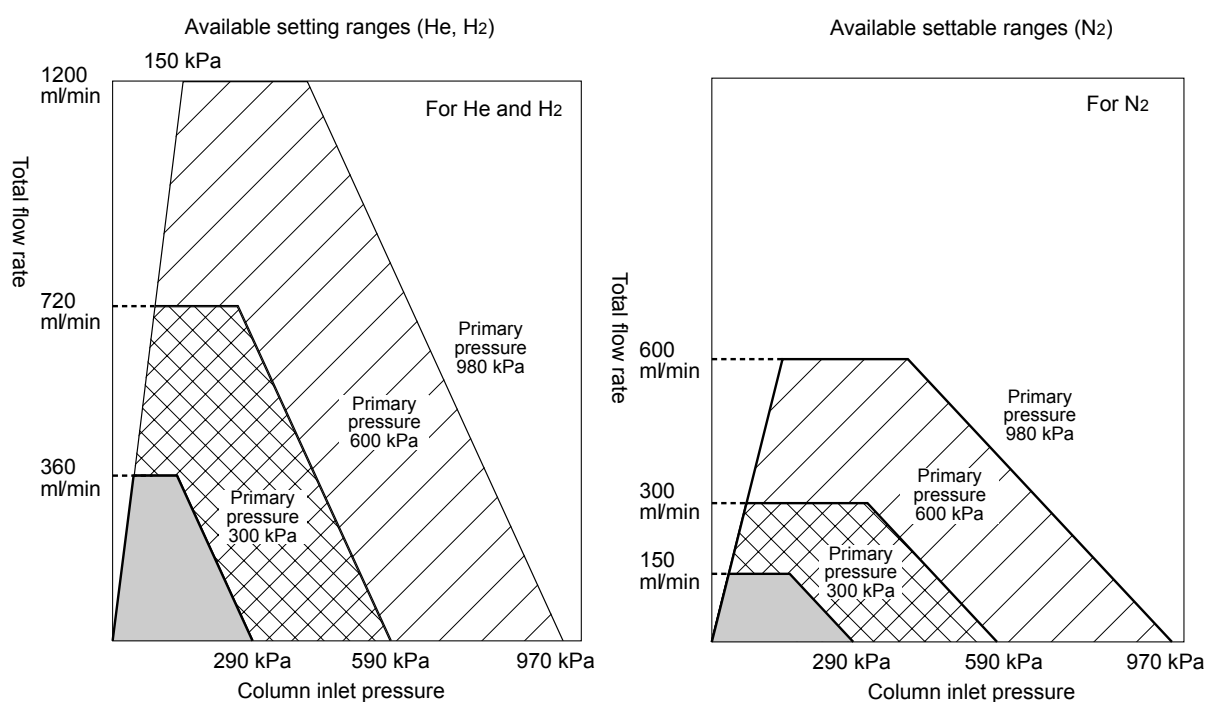

Fig. 12.2.5 Available setting ranges for the AFC
- NOTE** 1. Set the column inlet pressure and total flow rate so that they are within the ranges shown in Fig. 12.2.5.
Range: 0.0–970.0 kPa (Refer to Fig. 12.2.5.), Default: 100 kPa